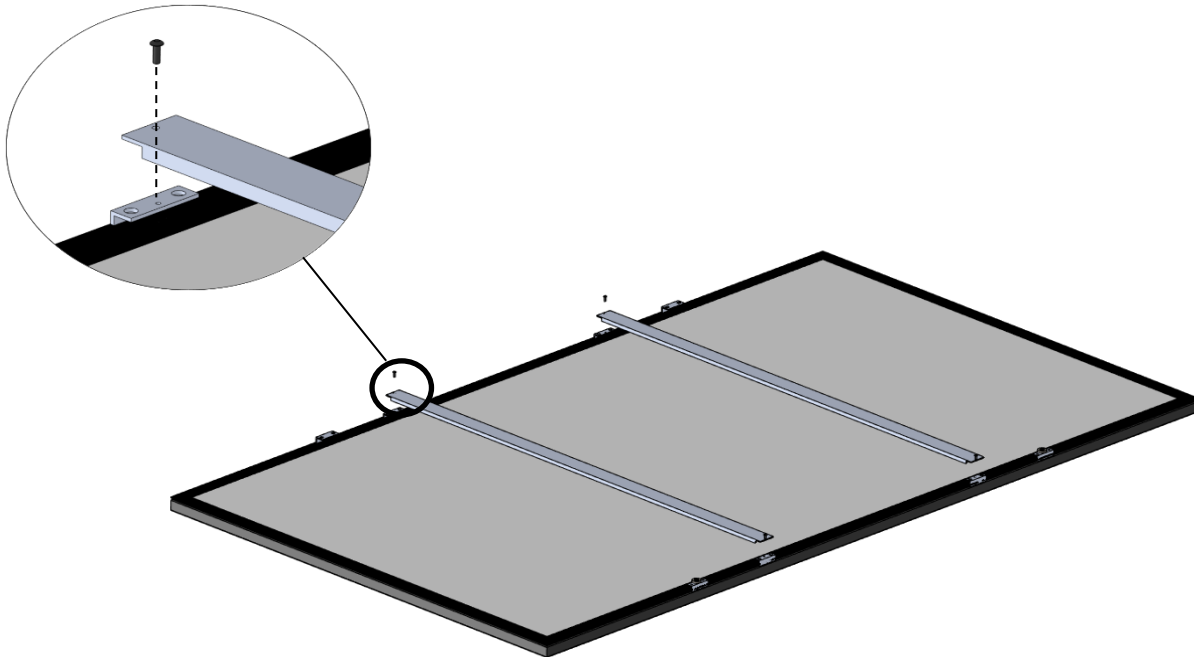

Figure 16: Attaching Back Brace to the Frame
3. Bolt back braces to brackets using the supplied 1/4"-20X3/8" button head bolt (see Figure 16).